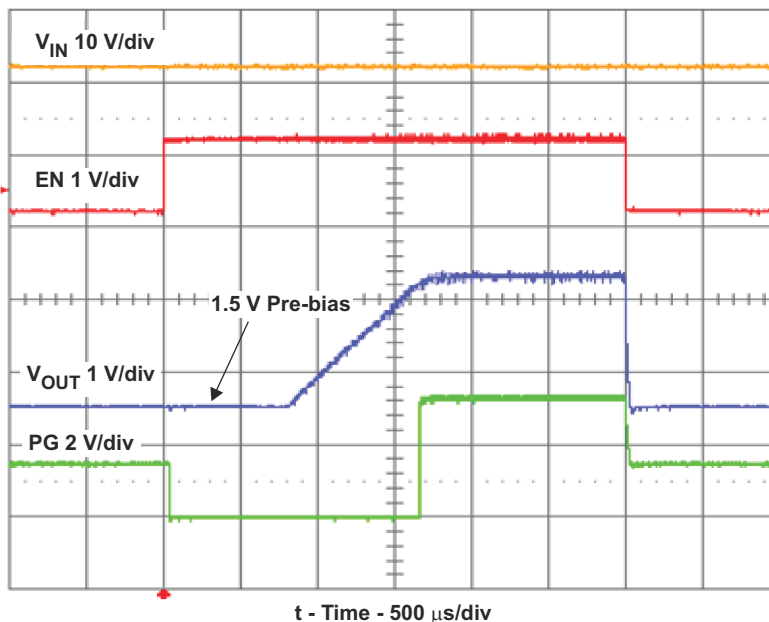
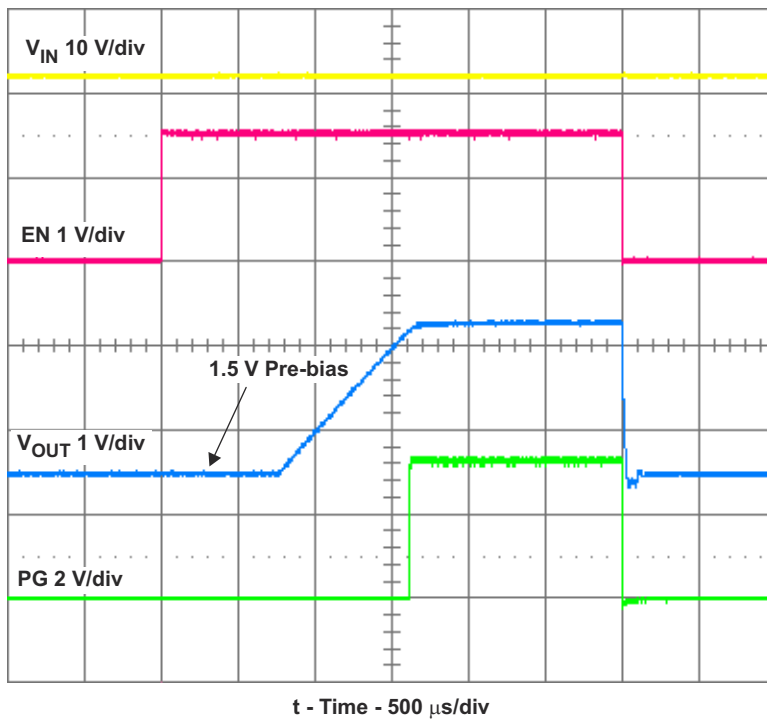

Figure 3-14. TPS62130 Prebias Start-Up and Shutdown on EN With 1-A Load and $V_{in} = 12$ V
Figure 3-15. TPS62130A Prebias Start-Up and Shutdown on EN With 1-A Load and V_{in} = 12 V
(1) EVMs made before August of 2013 use the non-A version of U1. The only difference between these devices is the operation of the PG pin when the device is disabled, as shown in Figure 3-14 and Figure 3-15.